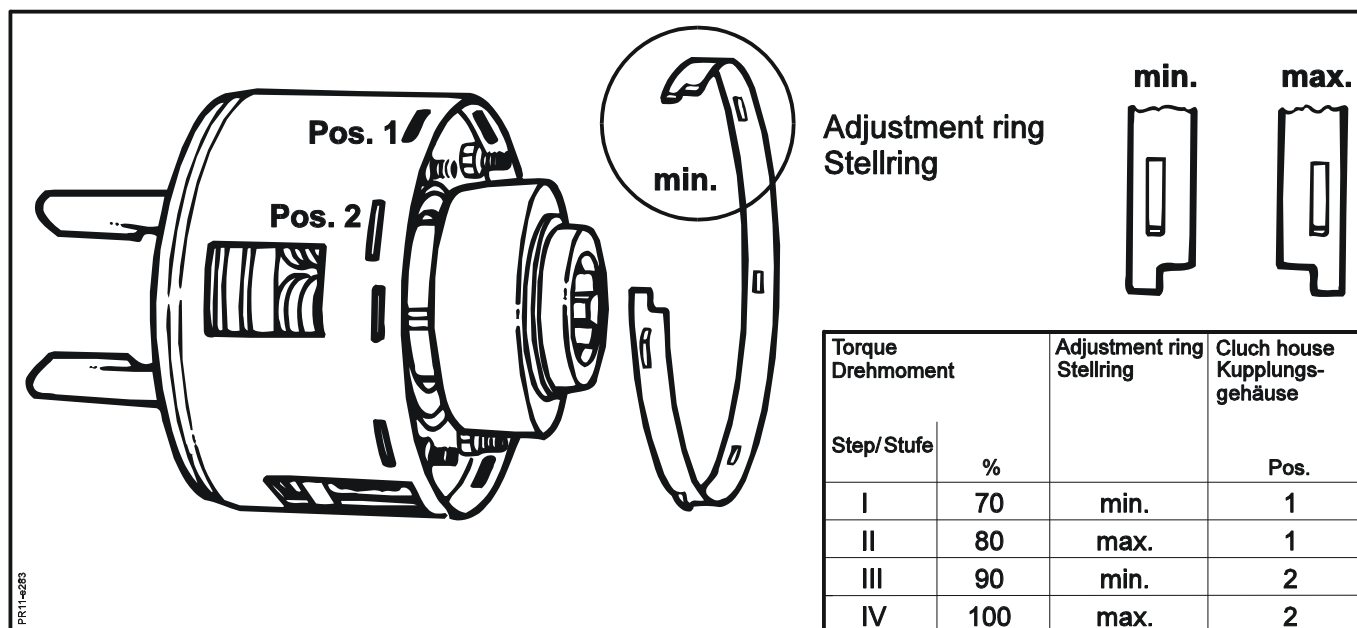

Fig. 5-3
**Fig. 5-3** The torque in the friction clutch has 4 different torque adjustments, which should be adapted as required. This is done by turning the adjustment ring and by choosing between 2 different positions in the clutch housing.
2. The clutch housing has two different sets of slots in the height into which the adjustment ring can be mounted, **pos. 1** and **pos. 2**.